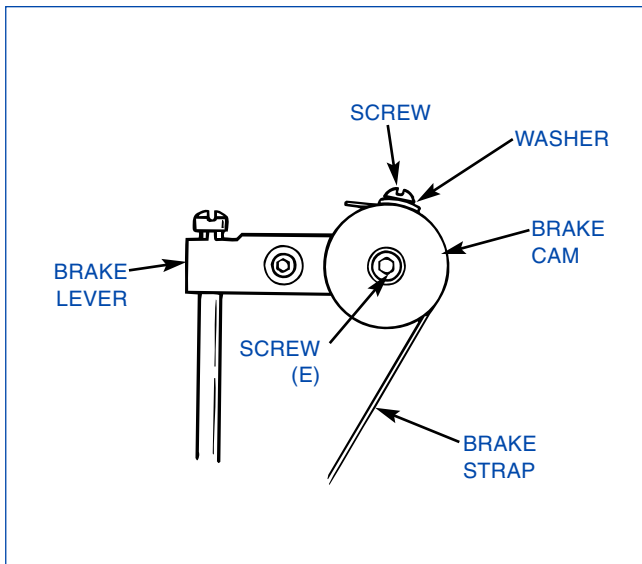

FIGURE 4-20, Brake
3. Open right side of Belt Guard by removing one (1) Button Head Capscrew, using 5/32" hex wrench.
4. Loosen Socket Head Capscrew (E) in Brake Cam, using 1/4" hex wrench (see Figure 4-20).
6. Loosen 7/16" Locknut (A) on Brake Adjusting Screw.
7. While holding Brake Cam up as far as possible, adjust Brake Adjusting Screw (D) until screw head just contacts Ridge on Brake Lever. Then tighten Locknut.
8. Rotate Brake Cam counterclockwise to take up slack in Brake Strap; and Brake Lever is horizontal (refer to Figure 4-20). Then tighten Capscrew (E).